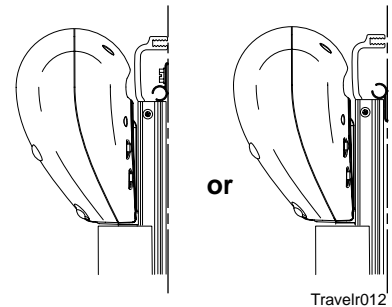

Figure 6. Aftermarket Arm Positioning.
- Align the center of the motorized arm with the centerline marked previously. Butt the top of the rear channel against the awning rail as shown in Figure 6.